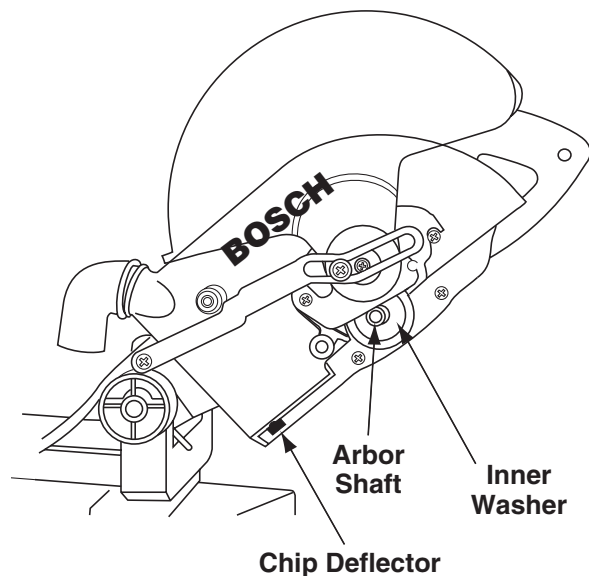

Figure 3. Blade Installation
7. To install the 10" blade, fit blade between the chip deflectors and onto arbor shaft (Figure 3). NOTE: Make sure the rotation arrow on the blade matches the clockwise rotation arrow on the lower guard.